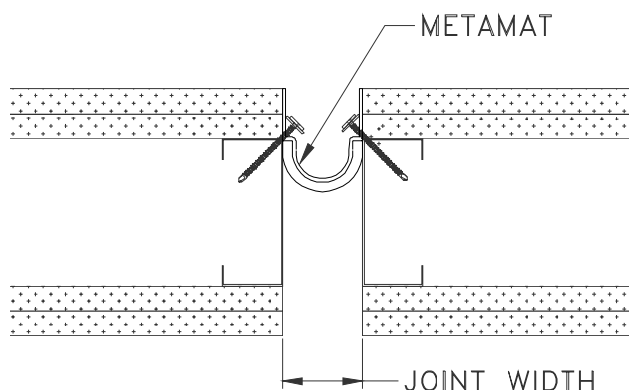

Figure 2
STEP 2. Select the fasteners and washers provided by the factory. Place a washer onto each fastener. Using the fasteners, attach the MetaMat layer to the wall (Figure 2). Ensure that the anchors are installed along the outside edges of the blanket layer of the package. For steel stud and gypsum wallboard walls, ensure that the fasteners are anchored through the steel stud. Anchor spacing is 10" o.c. with anchors a minimum of 2" from each end of each MetaMat. Clean away all dust and debris from the fire barrier and from the installation area.